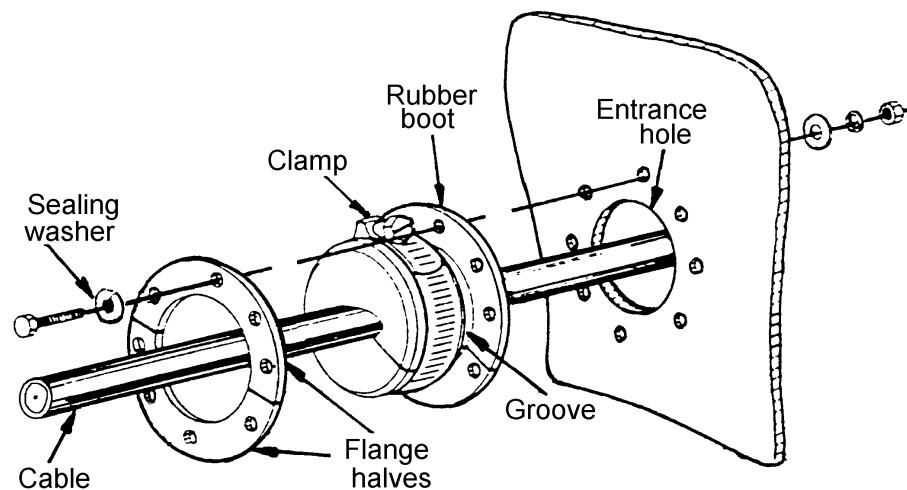

Figure 1.28 - Deck Gland Details
9. The 7/8in. R.F. feeder cable passes through its own separate deck gland (Andrew Feed-Thru Kit Type 40656-1), positioned near to the foot of the mast. The gland kit comprises a rubber boot, metal flange halves, eight Lock-o-seal washers and an adjustable clamp (Jubilee clip). In addition eight 1/4in. bolts (of a suitable length), flat washers, lock washers and nuts will be required. See Figure 1.28.